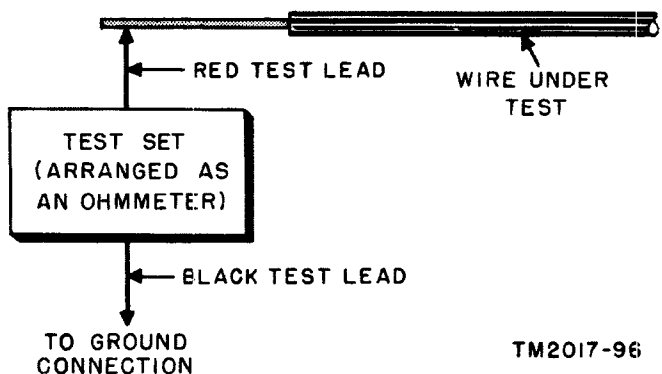

Figure 35. Simplified test setup for measuring leakage resistance.
c. Connect the red test lead to one wire of the pair under test and the black test lead to ground as shown in figure 35.